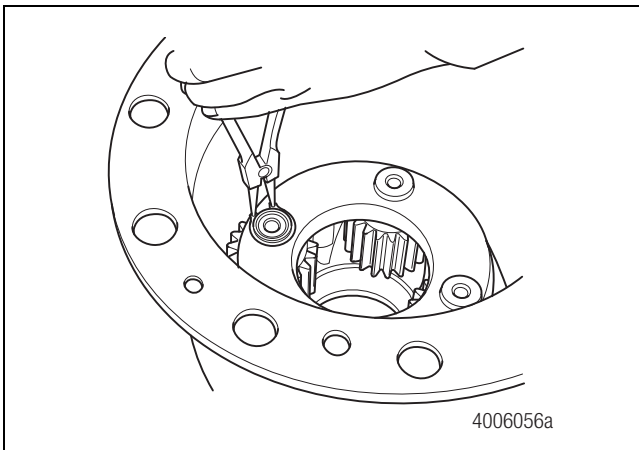

Figure 11.4
5. Install the snap rings onto the ends of the pinion shafts. Figure 11.4.